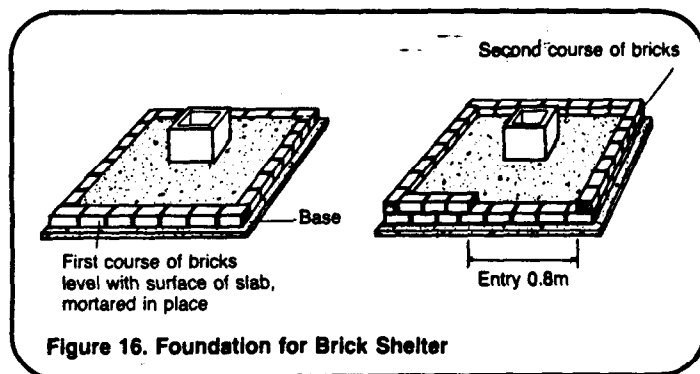

Figure 16. Foundation for Brick Shelter
3. Mortar a second row of bricks overlapping the first row as shown in Figure 16. Leave at least 0.8m space for the entry.